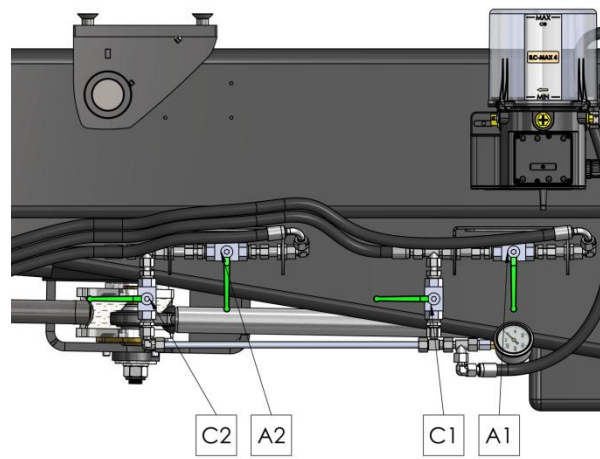

Figure 13-6 Valves closed
1. Check and verify that all ball valves are fully closed. Ball valves are closed when the handles are perpendicular to the line, see Figure 13-6.
6. Then close the vertical (C1, C2, C...) ball valves and verify that all ball valves are closed. Ball valves are closed when the handles are perpendicular to the line, see Figure 13-6.
5. The next step is to close all horizontal (A1, A2, A...) ball valves to the towed vehicle. Ball valves are closed when the handles are perpendicular to the pipe, see Figure 13-6.
WARNING! Before driving off after performing the alignment procedure, verify that all ball valves are closed. If this is not the case, the system will not steer and the alignment procedure must be repeated. Ball valves are closed when the handles are perpendicular to the line, see Figure 13-6.
- Close all ball valves, see Figure 13-6, and perform the steering alignment procedure, see chapter 13.4.2 for more information on steering system alignment. The ball valves are closed when the handle is perpendicular to the line.